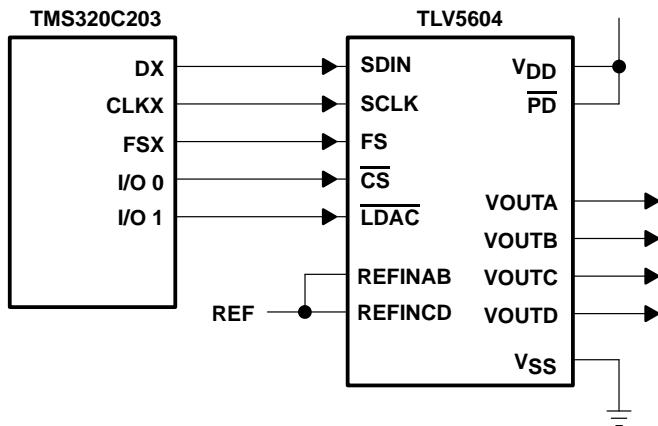

Figure 17. TLV5604 Interfaced with TMS320C203
Figure 17 shows an example of how to connect the TLV5604 to a TMS320C203 DSP. The serial port is configured in burst mode, with FSX generated by the TMS320C203 to provide the Frame Sync (FS) input to the TLV5604. Data is transmitted on the DX line, with the serial clock input on the CLKX line. The general-purpose input/output port bits I/O 0 and I/O 1 are used to generate the Chip Select ( $\overline{CS}$ ) and DAC Latch Update (LDAC) inputs to the TLV5604. The active low Power Down ( $\overline{PD}$ ) is pulled high all the time to ensure the DACs are enabled.